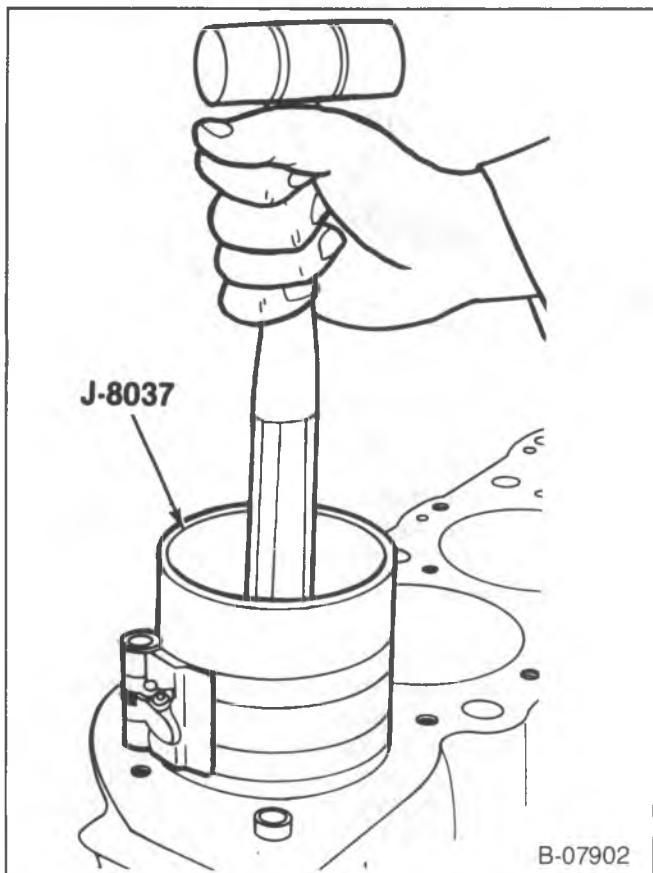

Figure 35—Installing the Piston and Connecting Rod
- Without disturbing the ring end gap location, install J 8037 over the piston (figure 35).
- Place the piston in its matching bore. Using light blows with a hammer handle, tap the piston down into its bore (figure 35). At the same time, from beneath the engine guide the